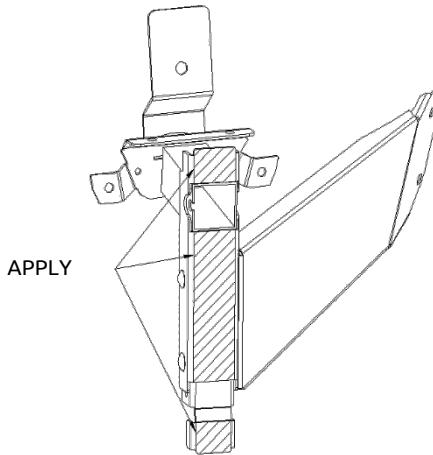

Figure 14
- a. Apply silicone to outer bracket faces (see figure 14)
- d. Fasten outer visor sections D/P to center visor section CW using (3) 1/4-20 x 3/4" bolts with flat washers and locknuts
- e. Fasten the outer visor halves D/P to the Outer Brackets OBD/OBP with (2) pan head bolts, washers, and locknuts at each side.